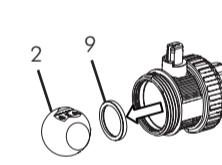

Fig.09
If any of the components of the valve wear out, you can replace them by dismantling the body of the valve. To do so, proceed in the same way with the adjustment but turn it clockwise until the seal carriers (12) are free Fig.07. When you have done this you may substitute any of the body's O-rings (8), (9), (6) Fig.08. Turn the shaft until the ball is in a closed position; remove the ball (2) and remove the ball seat (9) Fig.09.